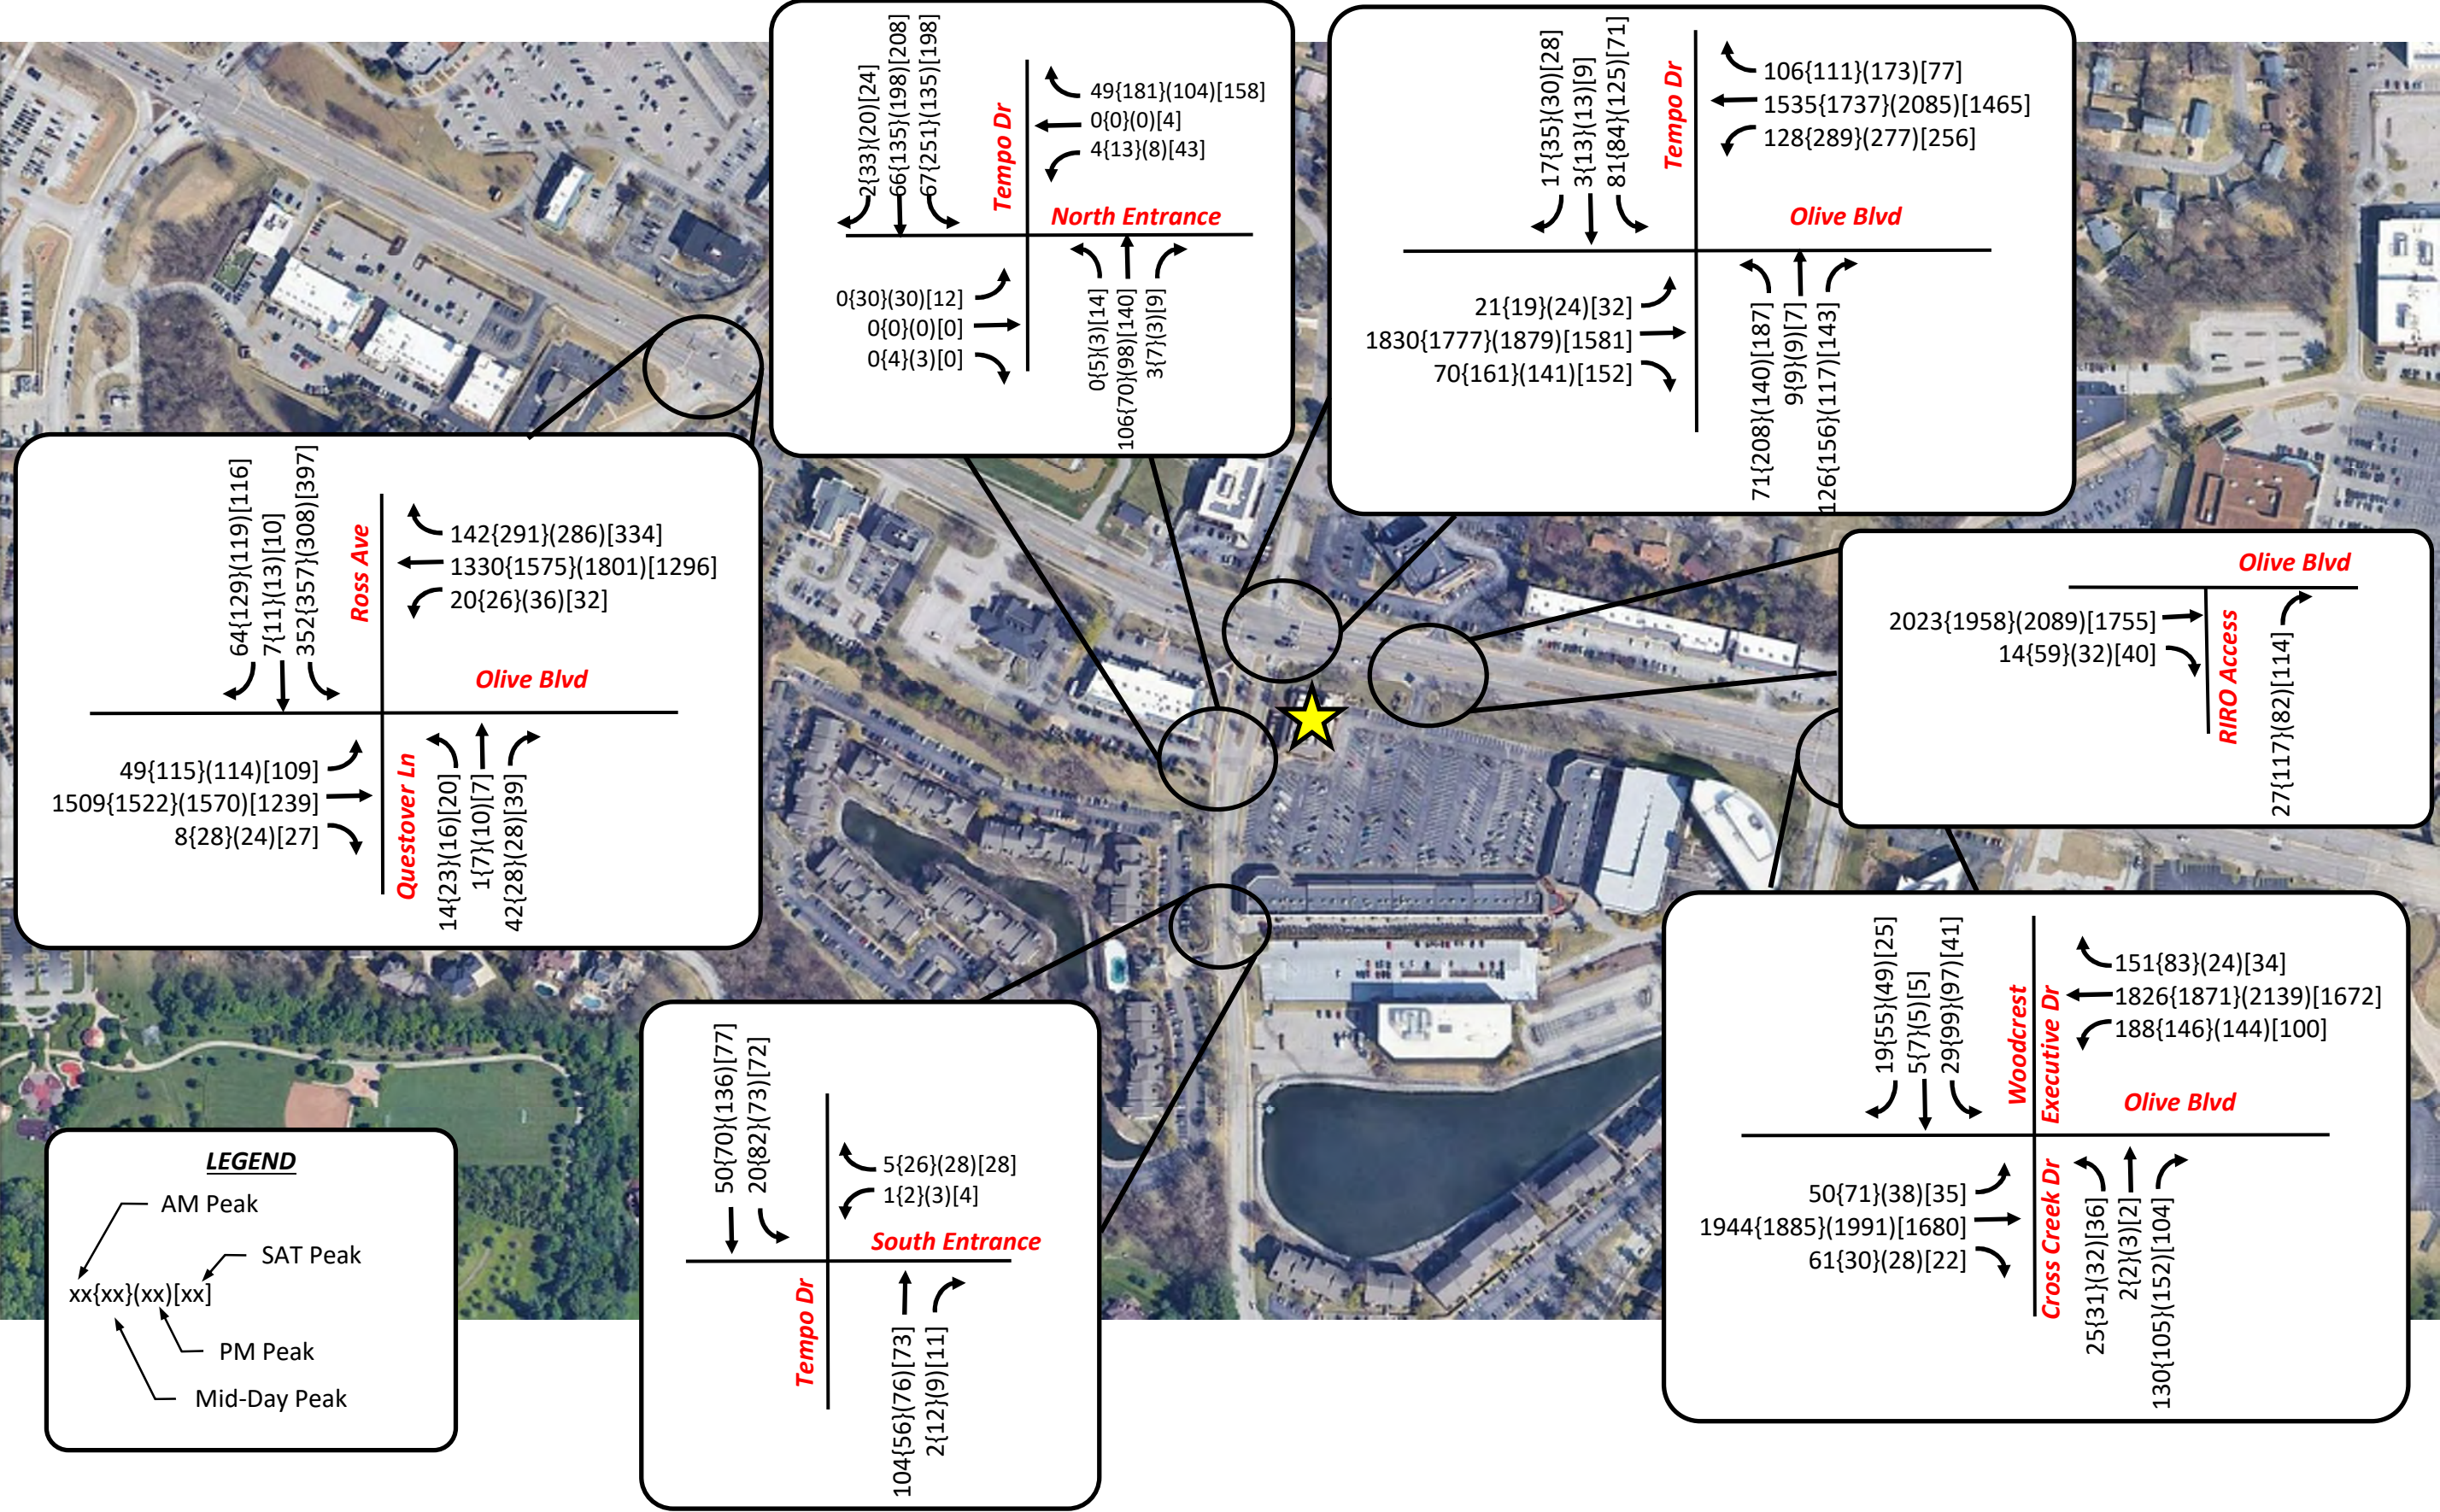

Figure 9
2. **Future 2045 (Build)** – This scenario will consider future traffic volumes with the impact of the proposed site generated trips and the proposed intersection improvements at Tempo Drive (**Figure 9**).